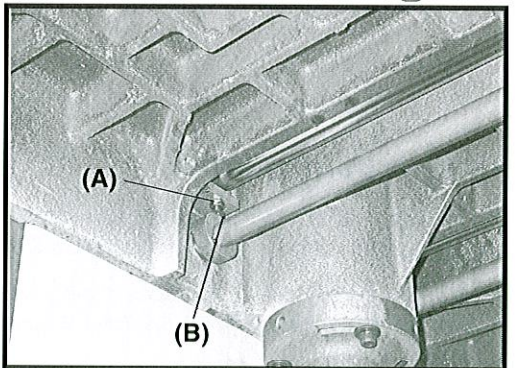

Fig. 8
3. Loosen nut (A) and adjust screw (B) to raise or lower the roller. Rollers must be adjusted on both sides.(Fig.8)